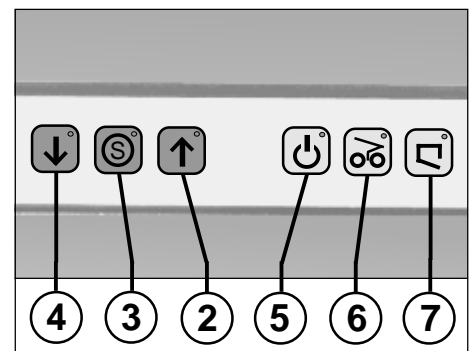

fig. 2
2. Press the „forward“ button (2) (fig. 2). The cutting system starts running.
- 2 = „Cutting system forward“ pushbutton (fig. 2)**
- 3 = „Cutting system stop“ pushbutton (fig. 2)**
- 4 = „Cutting system reverse“ pushbutton (fig. 2)**
- 5 = Pilot lamp (fig. 2)**